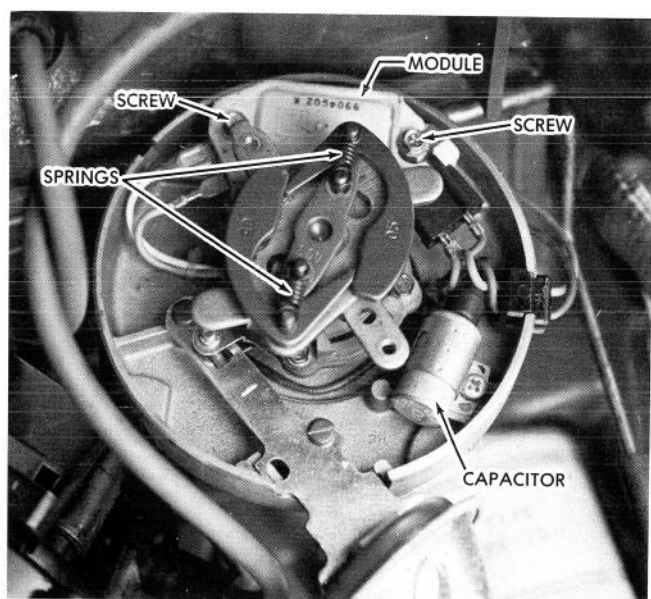

Figure 65
The electronic module (Figure 65) is serviced by complete replacement only. When replacing the module a liberal coating of special silicone grease **MUST** be applied to the metal mounting surface on which the module will be installed. If this grease is not applied the module will not cool properly which can cause the module to malfunction. A tube of this special silicone grease is supplied with each replacement module.
3. Remove two advance springs, weight retainer, and advance weights (Figure 65).
4. Remove two screws holding module to housing and move module to a position where connector may be removed from 'B' and 'C' terminals (Figure 65).
13. Disconnect capacitor lead and remove capacitor by removing one screw (Figure 65).
17. Install centrifugal advance weights, weight retainer (dimple facing down), and springs (Figure 65).